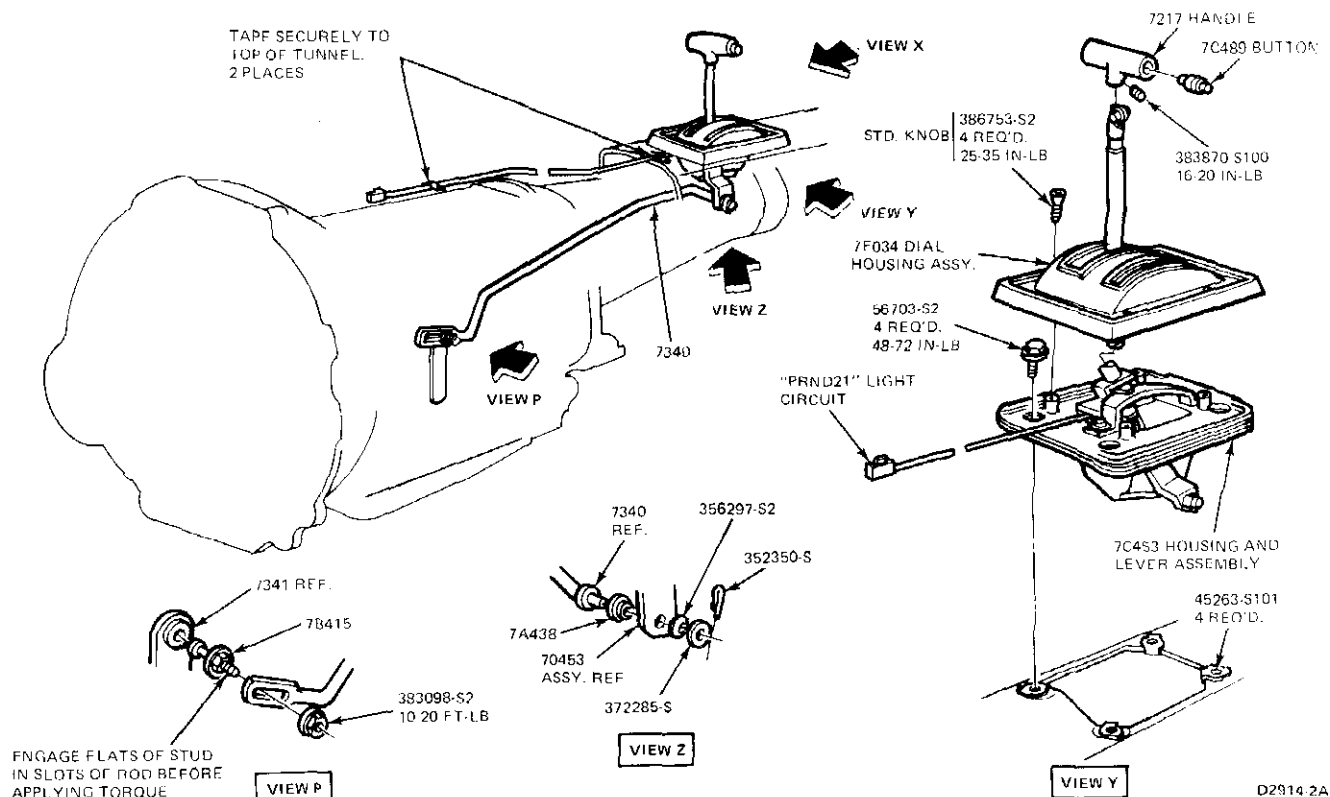

FIG. 5 Manual Linkage—Floor Shift—Fairmont and Zephyr
2. Raise the vehicle and loosen the manual lever shift rod retaining nut (Figs. 5 through 7). Move the transmission manual lever to the D position, second detent position from the back of the transmission.
15. Install the selector housing and lever assembly as shown in Figs. 5, 6 and 7. Torque the attaching bolts 4 to 6 ft-lb.